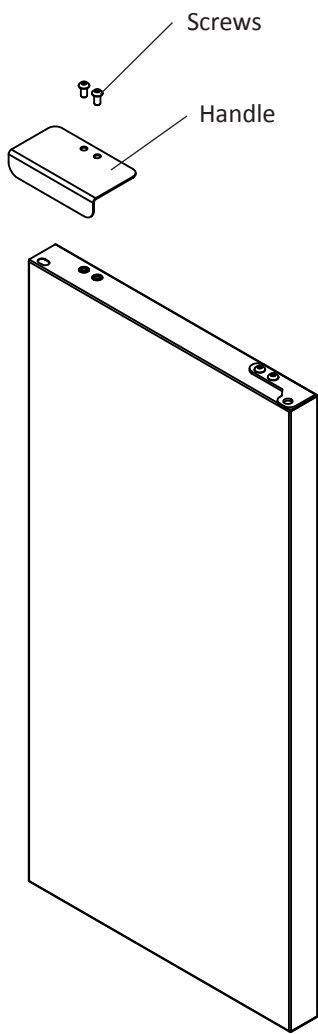

Figure 3
- 1. Remove the handle, (2) screws, and 5/32" allen wrench from the bag shipped inside the cabinet.
- 2. Locate handle opposite the hinges and secure in place using the (2) screws and the allen wrench.
- (See Figure 3).